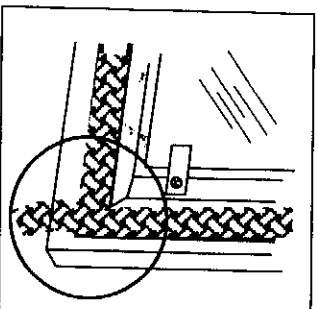

Fig. 55. Lay out the gasket in its channel to determine the right length.
- 3.** Determine the correct length of the appropriate-sized gasket by laying it out in the channel. Allow an extra 1-2" (25-50 mm), and mark the spot to be cut. See Fig. 55.